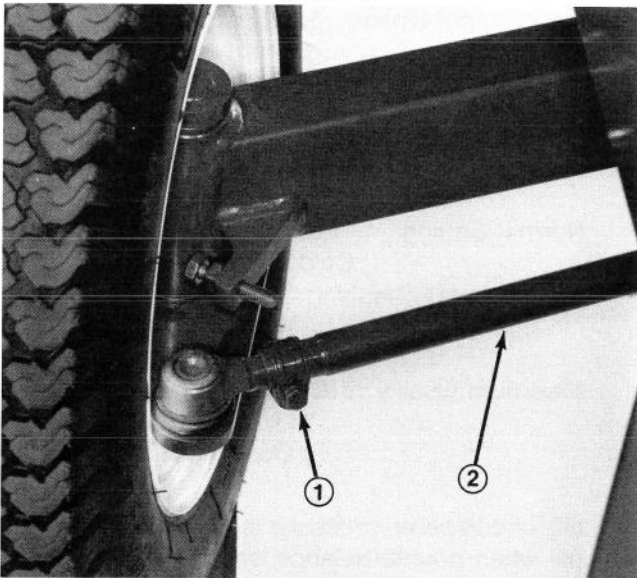

Figure 50
2. Loosen clamps at both ends of tie rods (Fig. 50).
3. Rotate tie rod (Fig. 50) to move front of tire inward or outward.